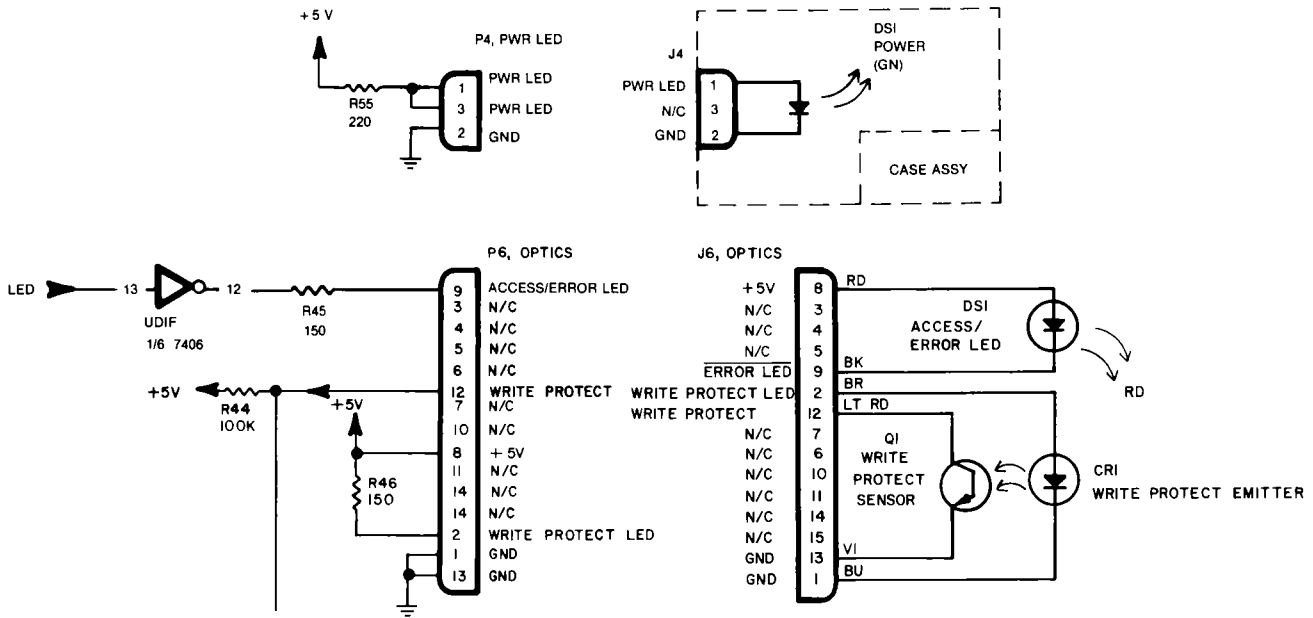

Fig. 7-42. Schematic of optics circuit, Model 1541.
7.2.10 Optics Circuit Electrical Theory (Refer to Figs. 7-42 and 7-43)